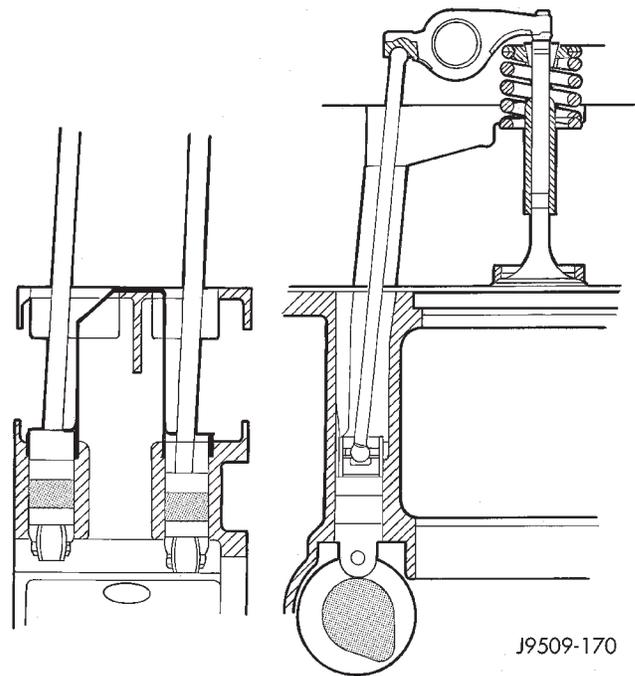

Fig. 35 Tappet and Rocker Arm Assembly
- (1) Remove coolant pressure bottle.
- (2) Remove cylinder head cover. Refer to cylinder head cover removal in this section.
- (3) Remove rocker assembly and push rods. Identify push rods to ensure installation in original location (Fig. 35).